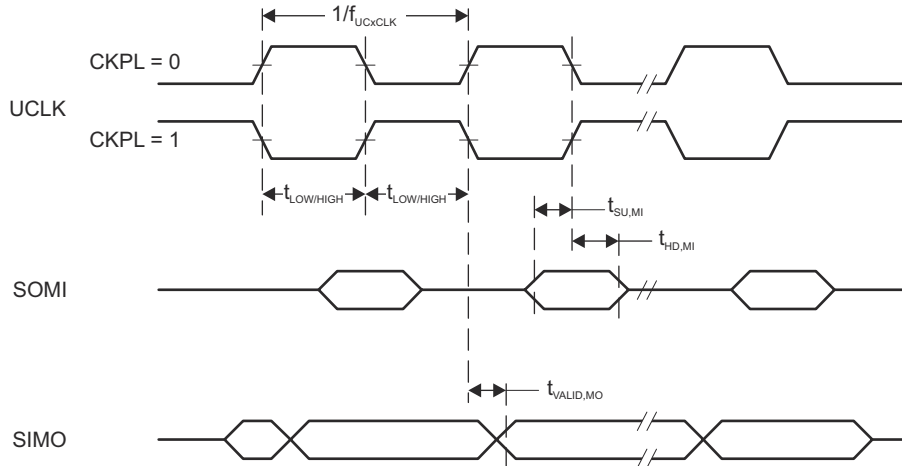
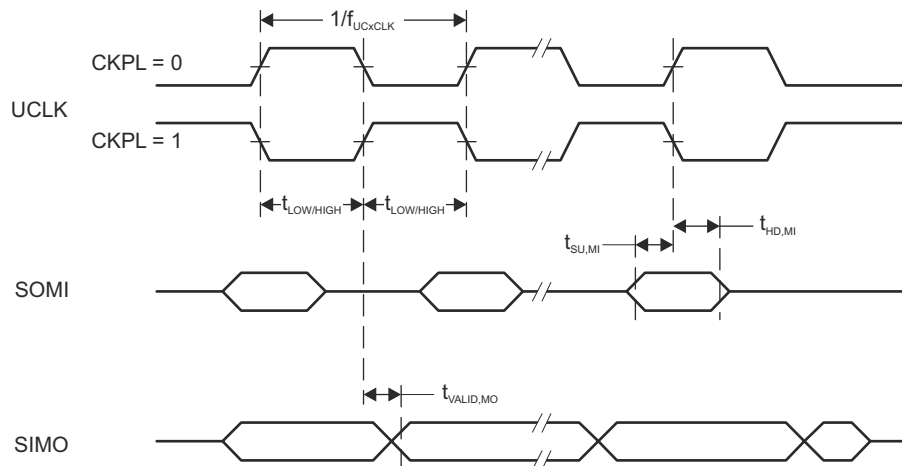

图 8-10. SPI Master Mode, CKPH = 0
图 8-11. SPI Master Mode, CKPH = 1
(2) Specifies the time to drive the next valid data to the SIMO output after the output changing UCLK clock edge. See the timing diagrams in 图 8-10 and 图 8-11.
- (3) Specifies how long data on the SIMO output is valid after the output changing UCLK clock edge. Negative values indicate that the data on the SIMO output can become invalid before the output changing clock edge observed on UCLK. See the timing diagrams in 图 8-10 and 图 8-11.